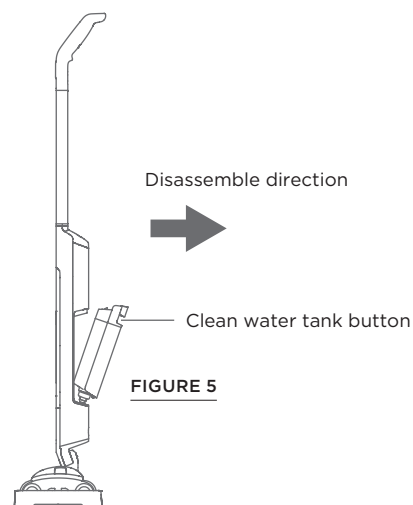

FIGURE 5
Assembly: Put the clean water tank cap into the round groove of machine and then press from top inward firmly. Insert clean water tank into mainbody until a “click” sound is heard. (Figure 5)
1. Clean water tank button position (Figure 5)